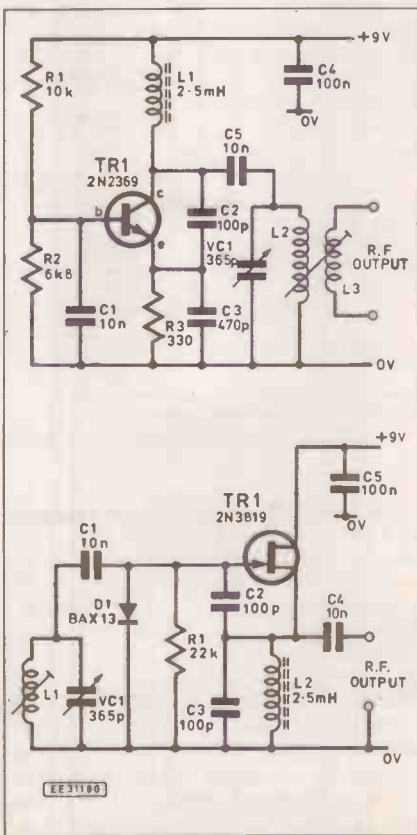

Fig. 7.15. R.F. oscillator circuits. (a) Bipolar transistor oscillator. (b) F.E.T. oscillator stage.
R.F. oscillators are used both in the local oscillator stages of superhet receivers and as a signal source in transmitters and signal generators. Fig. 7.15 shows simple transistor oscillator circuits based on bipolar and field-effect transistors. In each case, the stability of the stage (in terms of frequency) will be governed both by the quality of the tuned circuit components and the degree of regulation of the supply voltage.